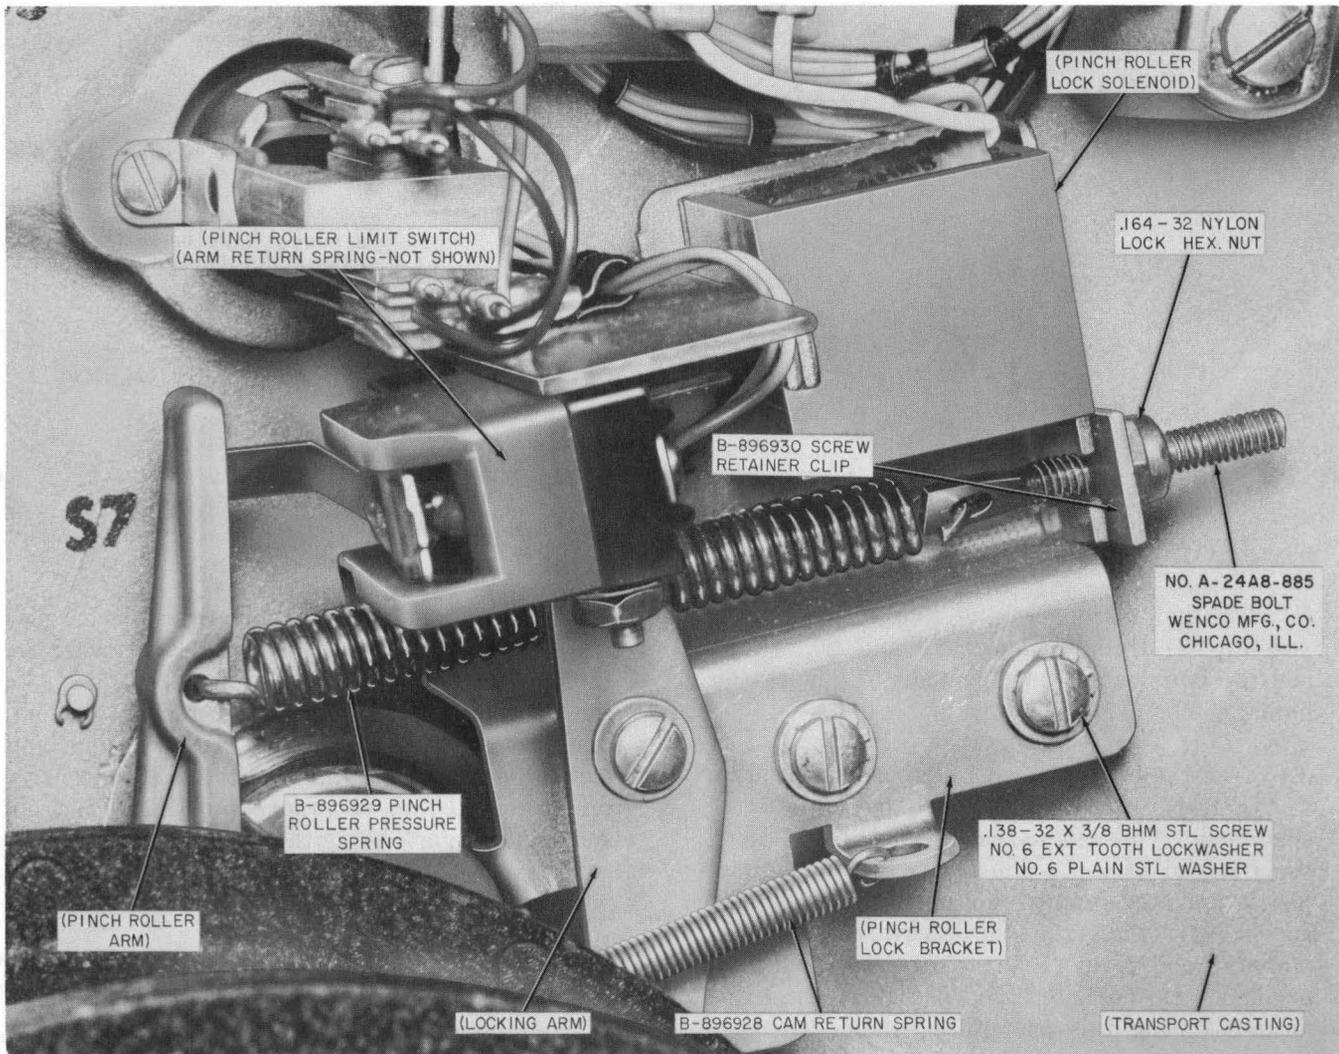

Fig. 16—Pinch Roller Lock Solenoid and Associated Parts—Mounted on Transport Casting
(2) Free the end of pinch roller pressure spring (Fig. 16) at the end which hooks into the spade bolt. This can be accomplished by grasping the flat end of the spade bolt with P long-nose pliers and tensioning the spring toward the spade bolt; then slip the screw retainer clip outward and away from the bracket which it engages. Do not alter the position of the nylon locknut during this procedure. Also disengage the hook of the pinch roller pressure spring from hole in the pinch roller arm and remove the spade bolt, screw retainer clip, and pressure spring.
lockwashers. Install the groove pin securing the locking arm to solenoid plunger, using the 3/32-inch drive pin punch and the 4-ounce riveting hammer. Place the bracket, solenoid, switch, arm return spring, and locking arm as a group in the position shown in Fig. 16. Secure bracket to transport casting with the two screws, plain washers, and external tooth lockwashers, using the 4-inch E screwdriver. Hook cam return spring to the lock bracket; reinstall pinch roller pressure spring, spade bolt, and screw retainer clip in reverse order of removal.
- (3) Free the end of pinch roller pressure spring (Fig. 16) at the end which hooks into the spade bolt. This can be accomplished by grasping the flat end of the spade bolt with P long-nose pliers and tensioning the spring toward the spade bolt; then slip the screw retainer clip outward and away from the bracket which it engages. Do not alter the position of the nylon lock hex nut during this procedure. Disengage the spade bolt from hook of pinch roller pressure spring.